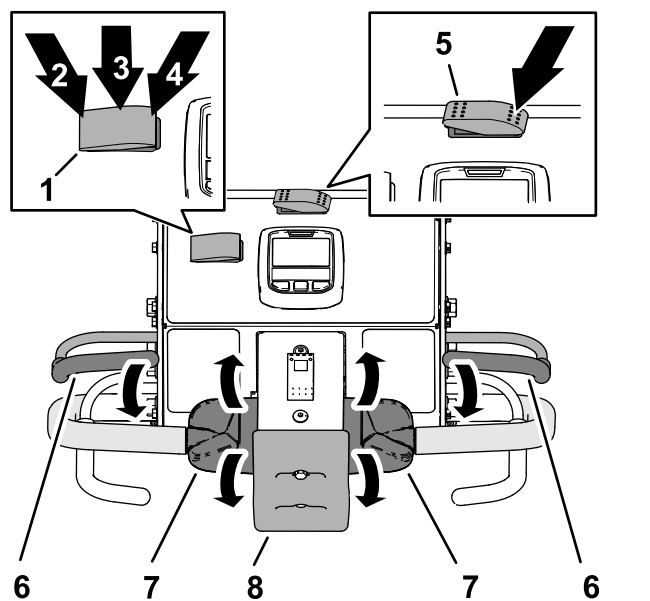

Figure 81
- Press the transport/aerate switch to the TRANSPORT position (Figure 81).